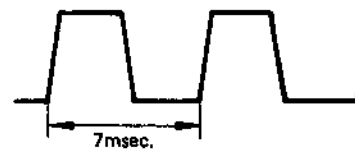

Fig. 2-18 Waveform at TP1
4. During fast forward or rewind mode, adjust R150(see Fig. 2-9) so that wavelength displayed on the oscilloscope becomes 7msec. (Fig. 2-18). Adjustment should be satisfied at any tape winding position.
3. TP. 1の波形の波長が7m secになるようにR150 (図2-9参照) を調整する……図2-18